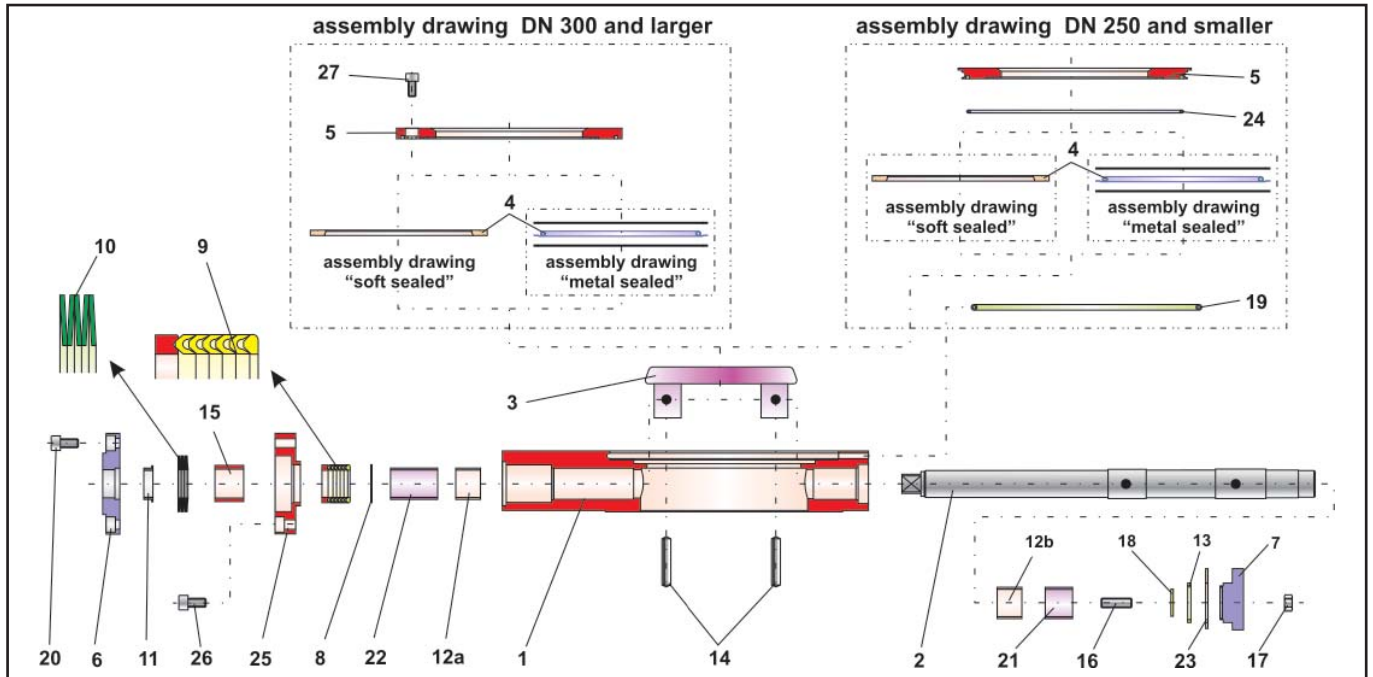

Fig. 7 - Exploded view of the Butterfly Valve Series 14c/ 74b with live-loaded V-ring packing
The arrangement of the V-rings is shown in the detail drawing (Fig. 7).
(10). The arrangement of the cup springs is also shown in the detail drawing (Fig. 7).